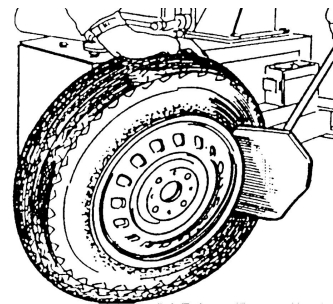

Fig 5
2) Open the bead breaker arm by hands by pushing it towards the outside, place the tyre against the rubber buffer. Bring the paddle against the bead about 10mm from the edge of the rim shown as Fig 5.